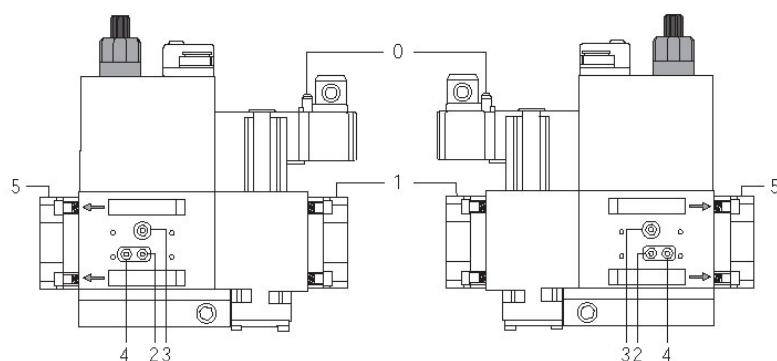
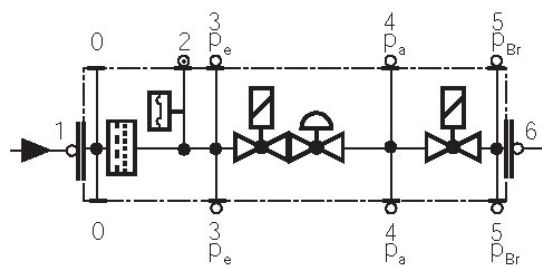

Fig. 58
Fig. 59
- Change the filter if the pressure difference between pressure connection 1 and 2 (Fig. 58-Fig. 59)  $\Delta p > 10$  mbar.
- Change the filter if the pressure difference between pressure connection 1 and 2 (Fig. 58-Fig. 59) is twice as high compared to the last check.